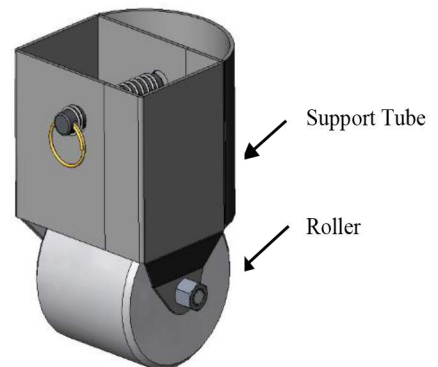

Figure 3 – Roller/Tube Assembly
- (2) Roller/Tube Assemblies (Fig. 3)